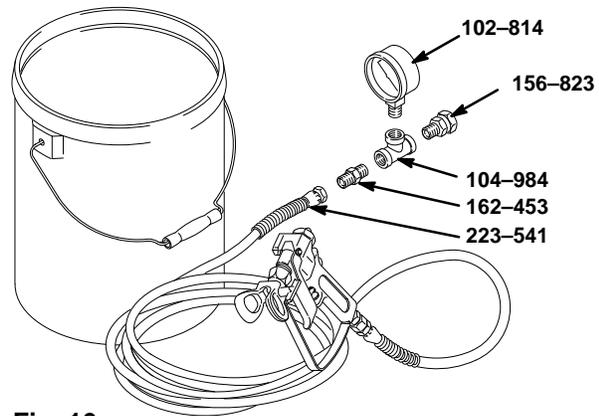

Fig. 16
2. Set up the system as shown in Fig. 16.